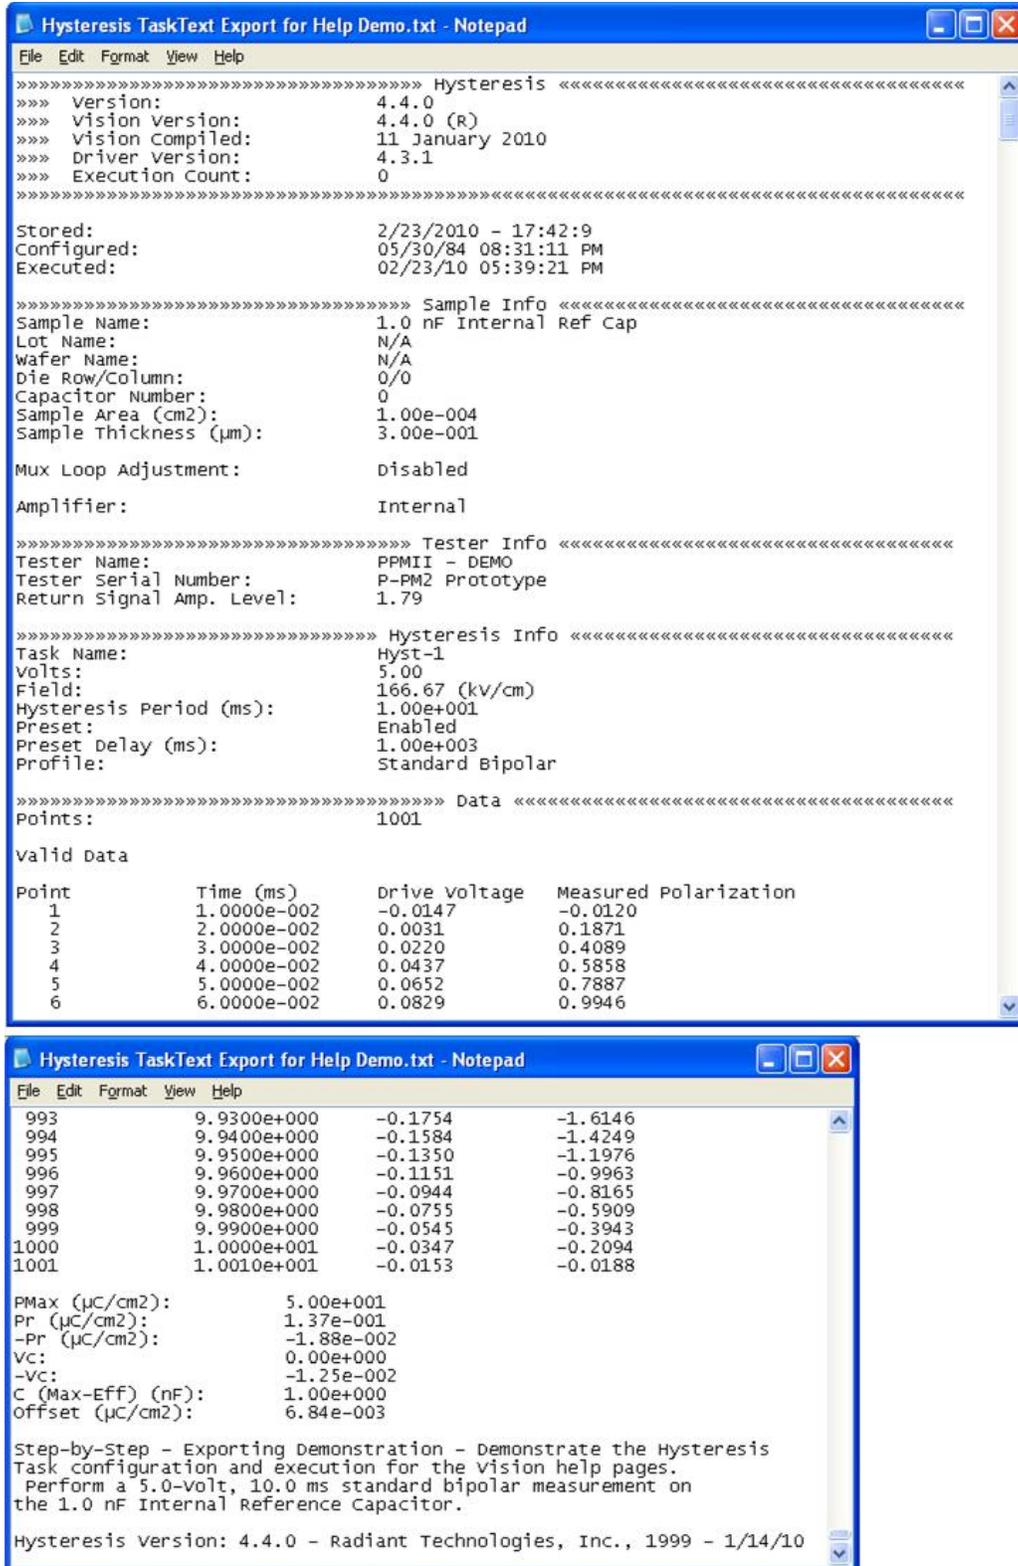

Figure 8 - Partial Sample Text File Export.
- E. Click *OK* on the "Results" dialog to write the file. A partial view of the file is shown in **Figure 8**.